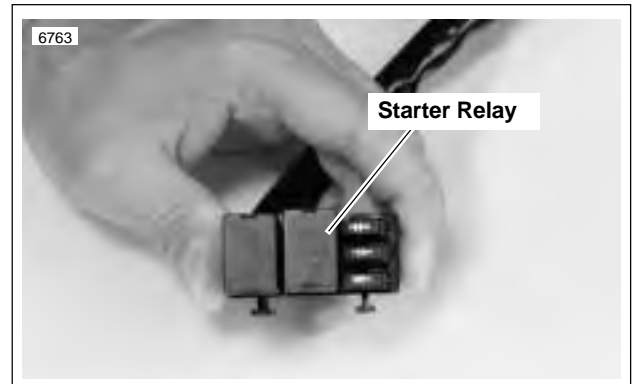

Figure 5-6. Starter Relay Location
1. See Figure 5-6. Locate starter relay. The relay is on the relay block on the right side of the vehicle under the tail section. Unplug relay connector.